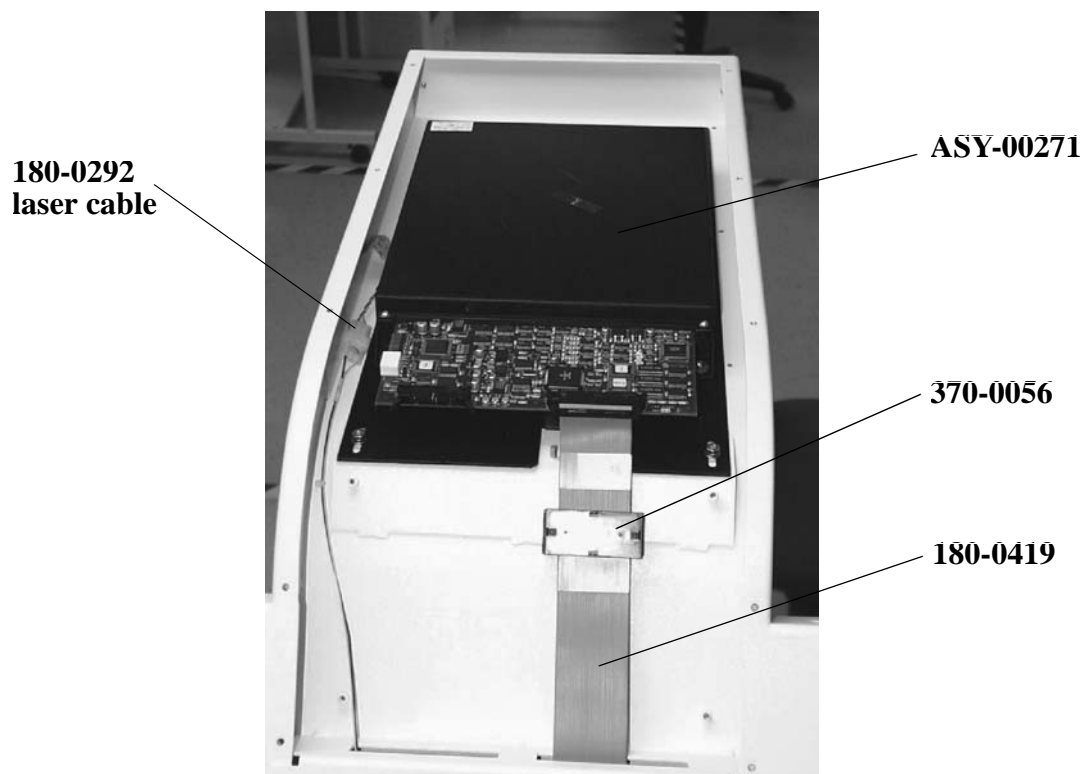

Figure 5-13. Detector Assembly ASY-00271
1. Install the ASY-00271 Detector Assembly (see Figure 5-13) in place of the 010-1653 using the screws removed in Step 3.